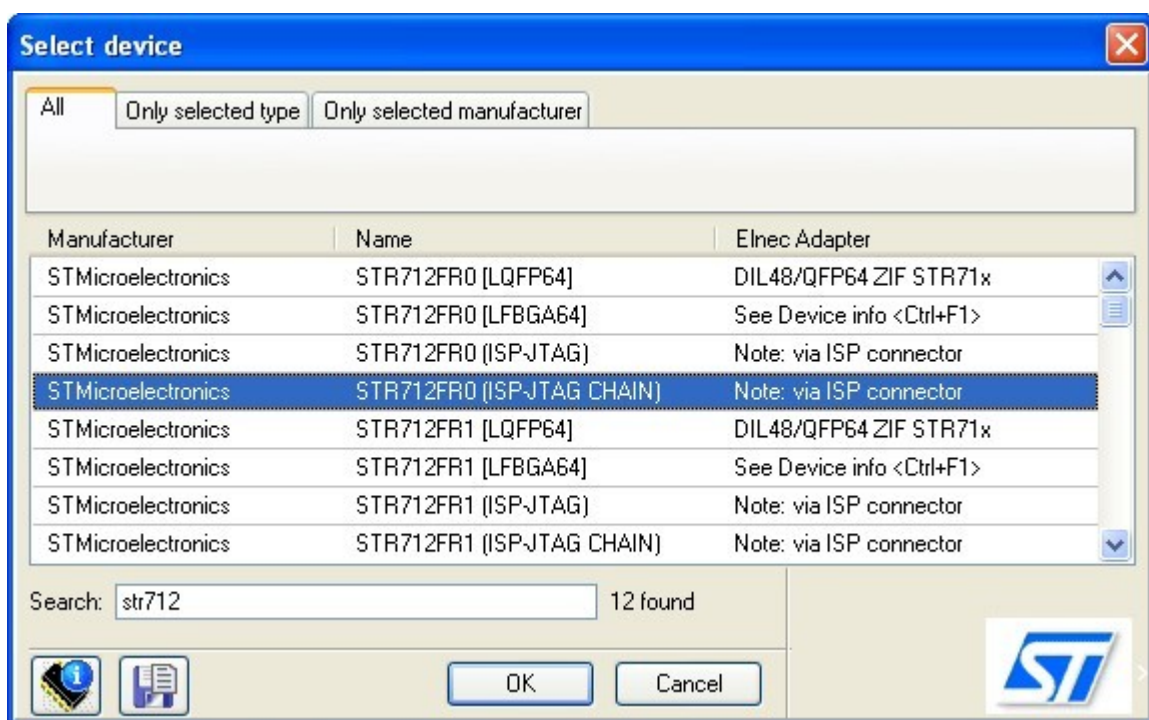

Figure 21: JTAG device selection - must be supported in ISP-JTAG CHAIN mode
1. Firstly, display the Select device dialog window and list for desired JTAG device supported in ISP-JTAG CHAIN mode, i.e. for STR712FR0 (ISP-JTAG CHAIN) in this example (see Figure 21).